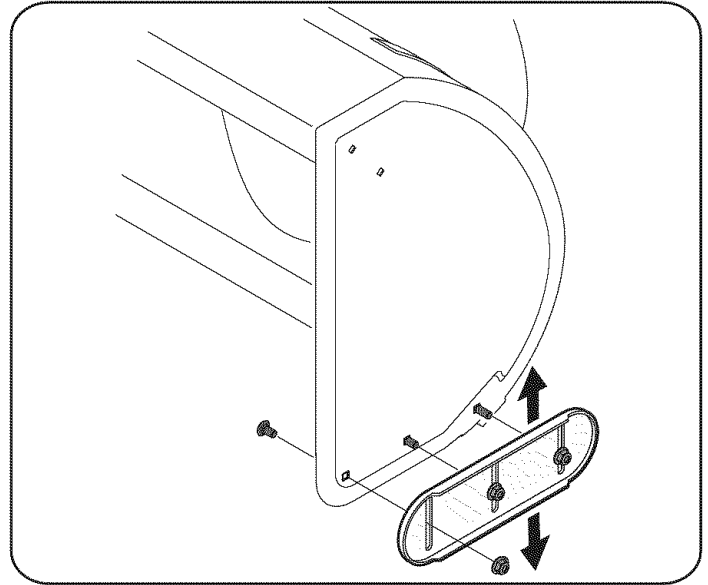

Figure 8
1. Loosen the six hex nuts (three on each side) and carriage bolts. Move skid shoes to desired position. See Figure 8.